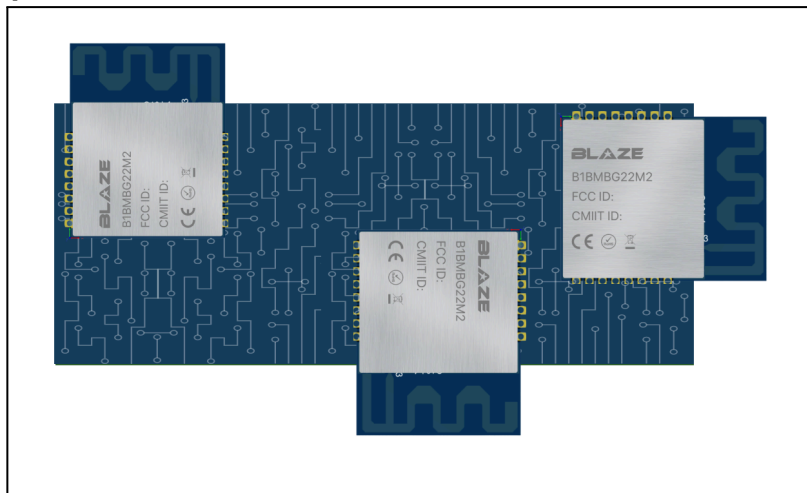

Figure 10.2. BLE Module placements with Antenna position Overhang – multiple positions
- ☐ Keep the antenna away from metal conductors as shown in Figure 10.2.